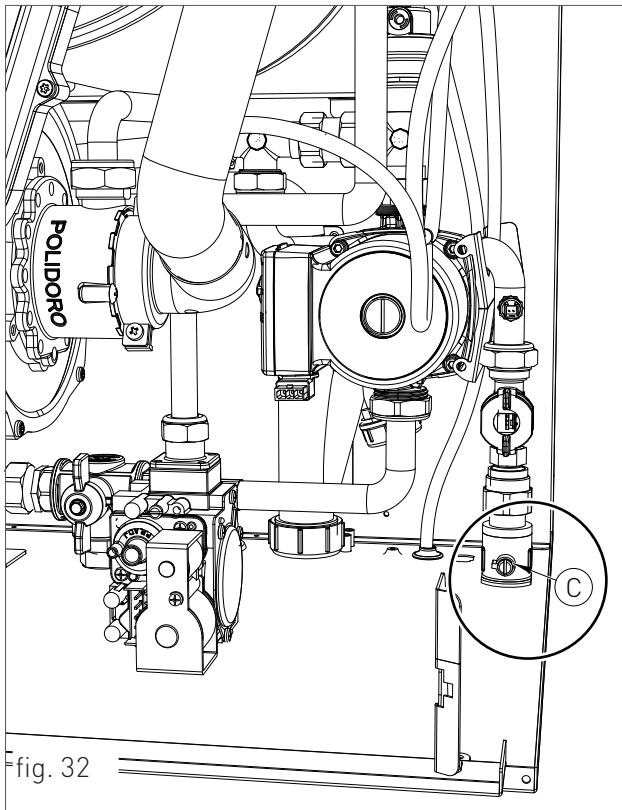

fig. 32
- › Make sure that the value 'd1' is of 5.5 gal, otherwise adjust it through the flow rate regulator (C-figure 32).